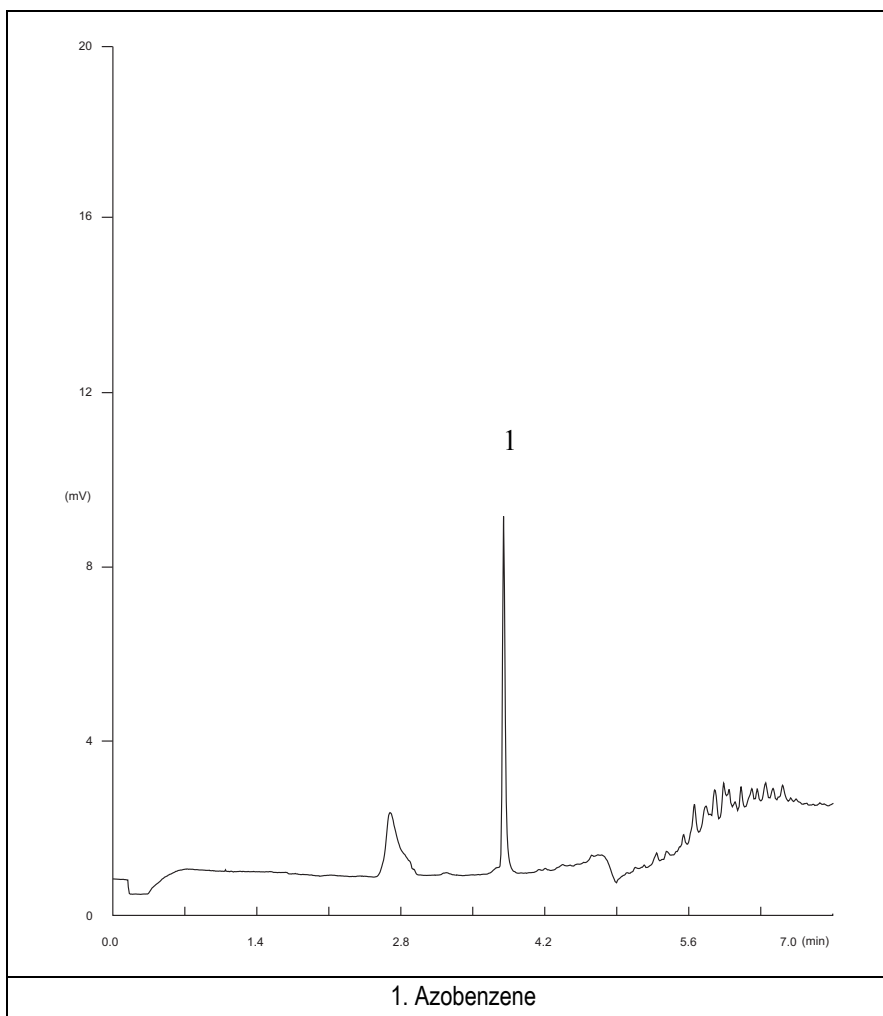

Figure 24-1. PID-PTV Injection with 8.4 eV UV Lamp
15. Inject the test mixture and press **START** on the GC to begin the checkout run. The resulting chromatograms should look like the one shown in *Figure 24.1, 24.2, 24.3 or 24.4*.